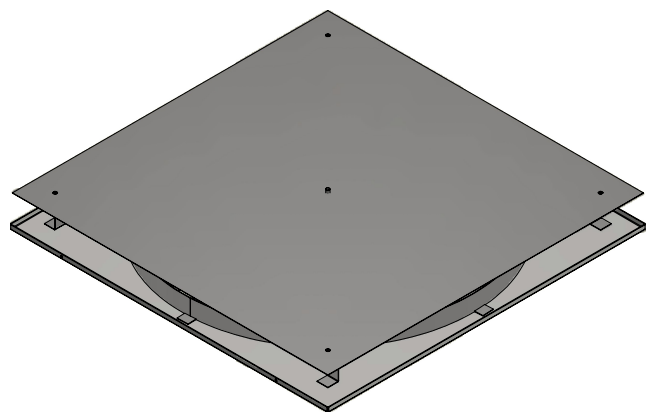

Figure 10: SD5/S Light Baffle Installation to SD5/S
- Lay on back of diffuser as figure 10